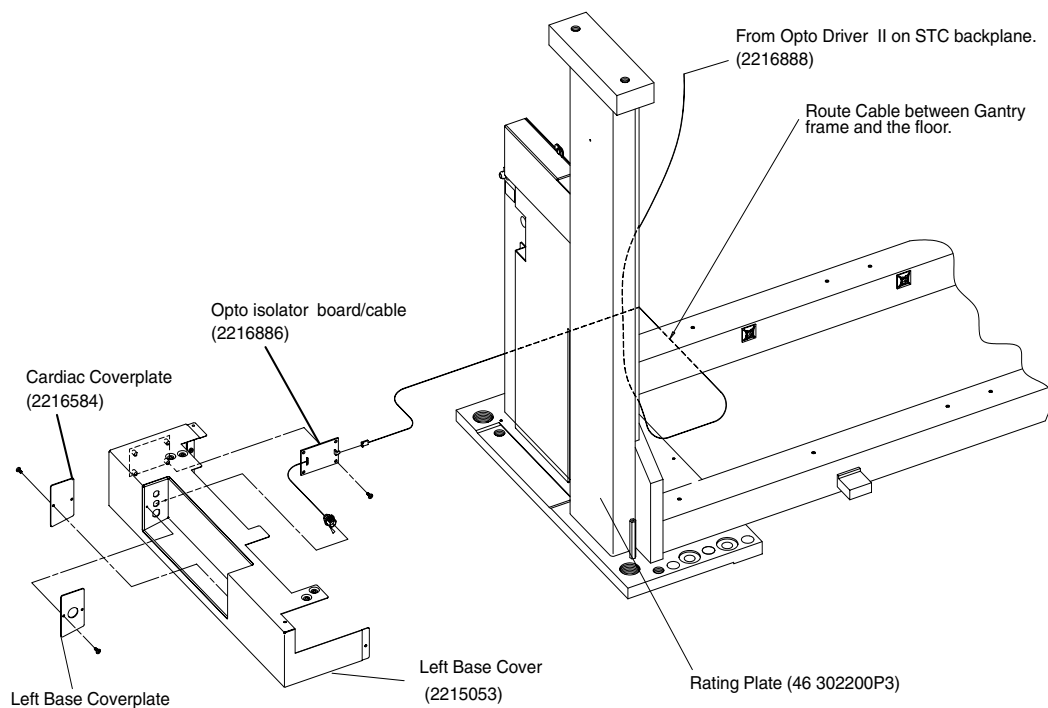

Figure 3-4 Route the Cardiac Cable In The Gantry Base
- 9.) Refer to Figure 3-4.
- 3.) Refer to Figure 3-4.